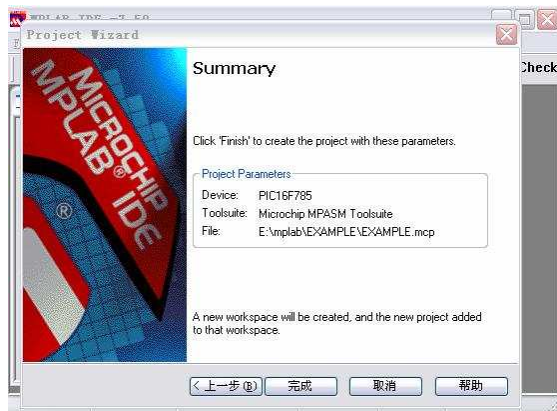

Figure 2-9 Tip interface
Step 6, click "Next", as shown in Figure 2-9 to come to tips interface.